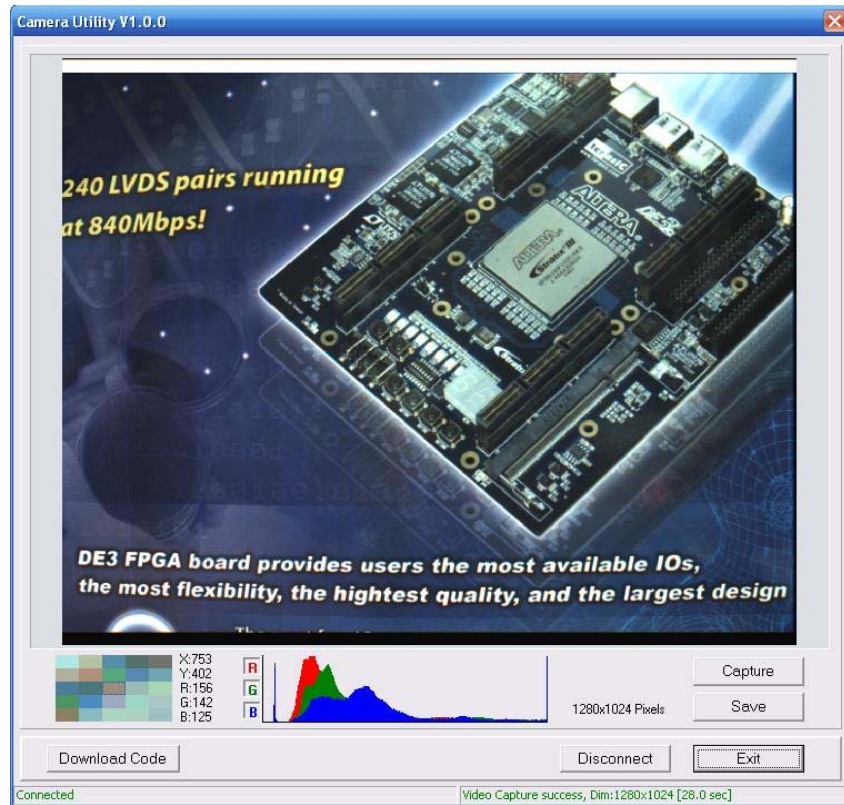

Figure 3.3. The DE2_70_camera tool
12. Users can upload the captured image to PC by clicking the 'Capture' button of the 'DE2_70_CAMERA.exe' as shown in Figure 3.3. Meanwhile, the digital camera is set to photo-taking mode. Press **KEY3** to switch back to FREE RUN mode.